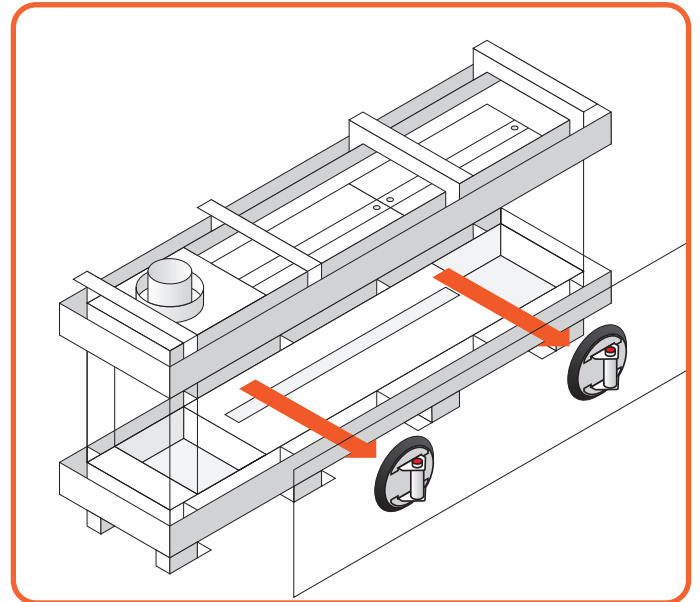

Figure 9.18 | Removal of long side glass
- Lift the window a little and tilt it out of the fireplace through the opening. (Figure 9.18 )